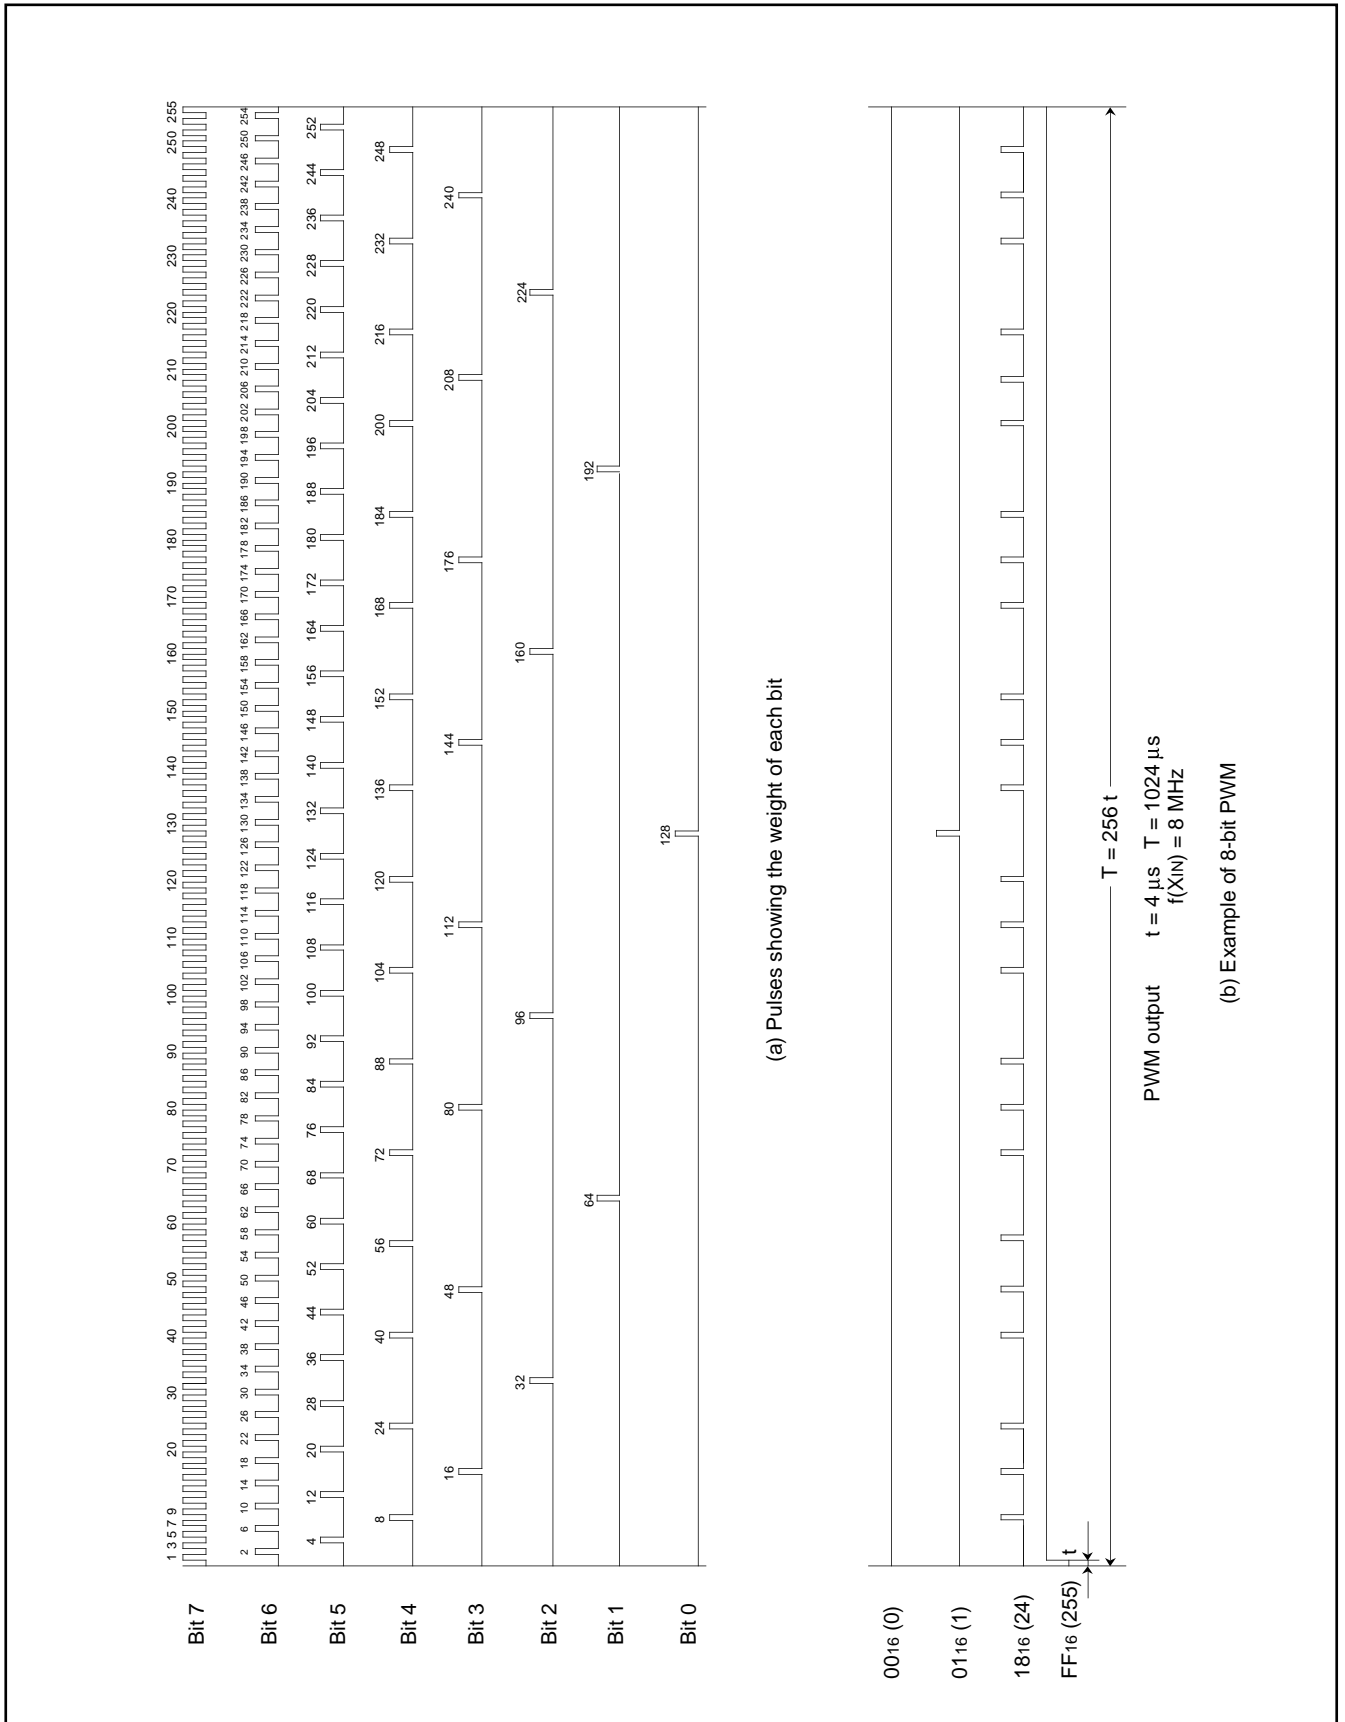

Fig. 24. 8-bit PWM timing
Figure 24 shows the 8-bit PWM timing. One cycle (T) is composed of 256 ( $2^8$ ) segments. The 8 kinds of pulses relative to the weight of each bit (bits 0 to 7) are output inside the circuit during 1 cycle. Refer to Figure 24 (a). The 8-bit PWM outputs waveform which is the logical sum (OR) of pulses corresponding to the contents of bits 0 to 7 of the 8-bit PWM register. Several examples are shown in Figure 24 (b). 256 kinds of output ("H" level area: 0/256 to 255/256) are selected by changing the contents of the PWM register. A length of entirely "H" output cannot be output, i.e. 256/256.